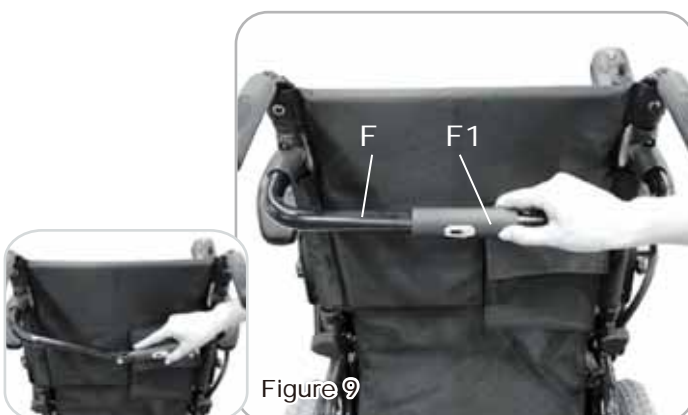

Figure 9
Pressing the Delta Tube Pin on the Delta Tube's Delta Tube Lock down to the bottom, then push & pull the Delta Tube to the right side to release the Delta Tube Lock, next step pull Delta Tube downwards to fold up.(See Fig. 9) (F) and (F1).